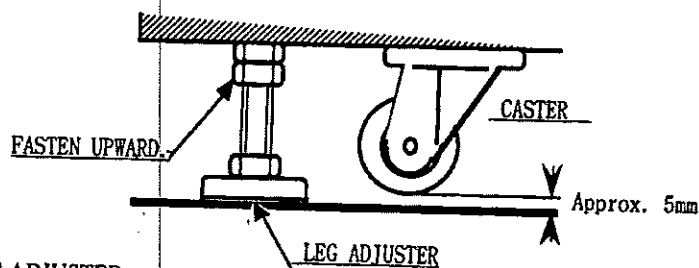

FIG. 6.13 LEG ADJUSTER
- ① Move the machine to the installation position. When installing the machine against or close to a wall, be sure to secure a passage space to enable the player to take a ride in the machine.
- ② Cause all of the leg adjusters to make contact with the floor. By using a wrench, make adjustments in the height of the leg adjusters to ensure that the machine's position is level.
- ③ After making adjustments, fasten the leg adjuster nut upward and secure the height of the leg adjuster (Fig. 6.13).